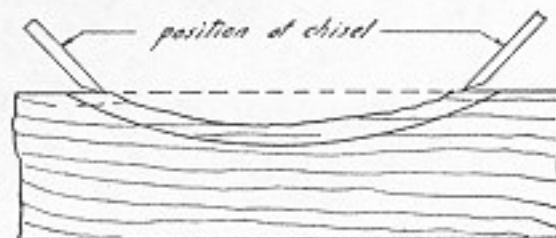

Fig. 138. Chiseling a concave curve.
7. A concave curve is chiseled as follows: The beveled side of the chisel is held down, and chiseling is done from both ends of the curve toward the middle. As it is difficult to control the depth of the cut, great care must be used and only light cuts taken (Fig. 138).